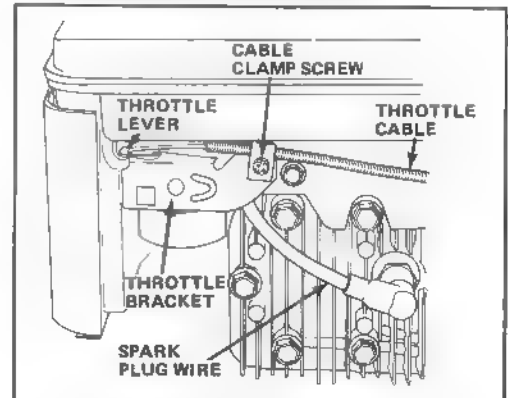
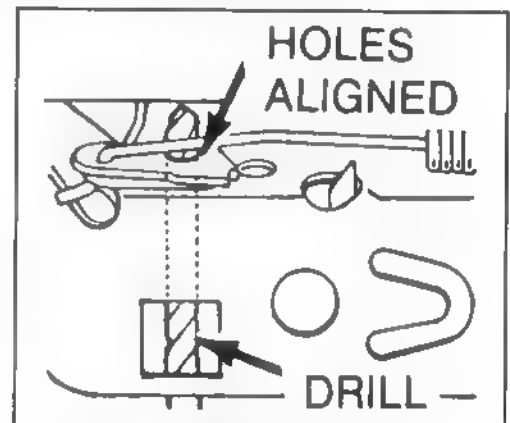

Figure 17
Figure 18
1. Stop engine and pull wire off spark plug (Fig. 17).
3. Loosen cable clamp screw until throttle cable slides (Fig. 17). Align holes in throttle lever and throttle bracket using a 1/8" diameter drill (Fig. 18). Tighten cable clamp screw to lock adjustment in place.